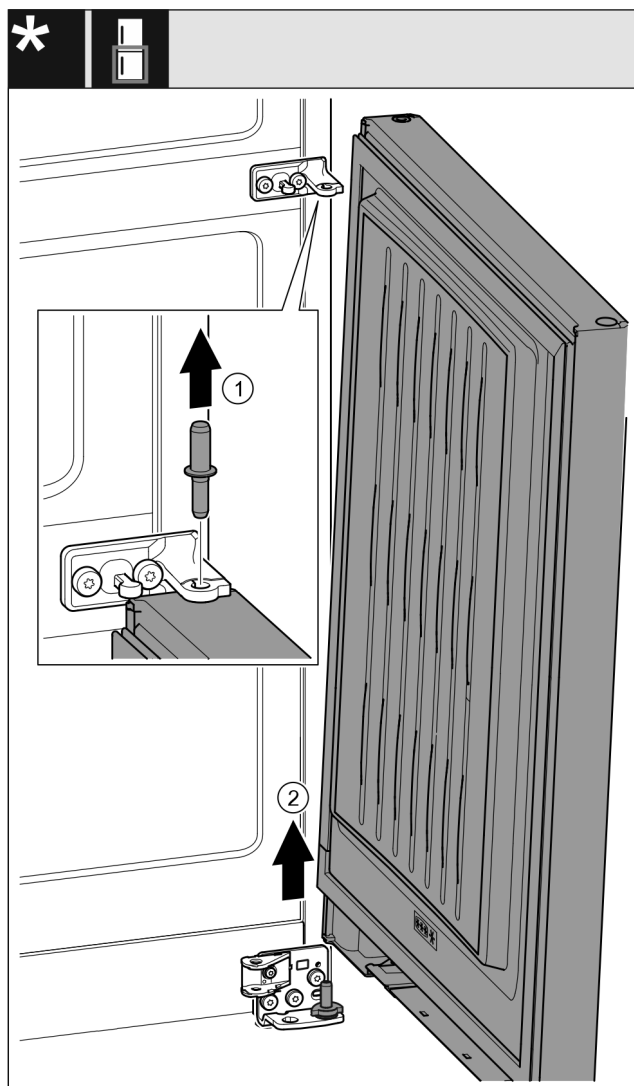

Fig. 23 *
- Pull out the bolts upwards. *Fig. 23 (1)**
- Swing the door out, pull it upwards and place it to one side. *Fig. 23 (2)**